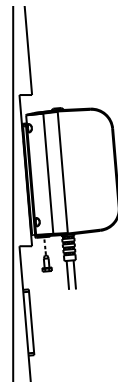

Fig. 3
5. Attach controller to bottom lip of mounting plate using M4 x 10mm self tapping screws provided. (Fig. 3)